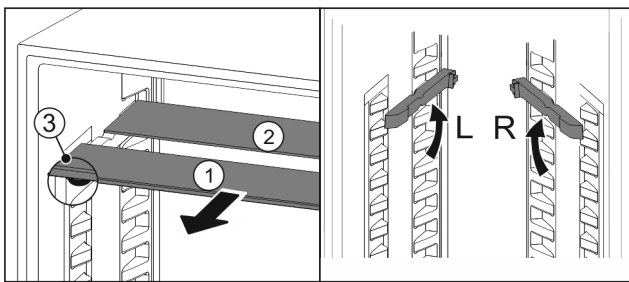

Fig. 51
- ▶ Pull the glass panels out Fig. 51 (1) from the front, one at a time.
- ▷ The glass panel Fig. 51 (1) and trim strip are at the front.
- ▷ The stops Fig. 51 (3) point down.